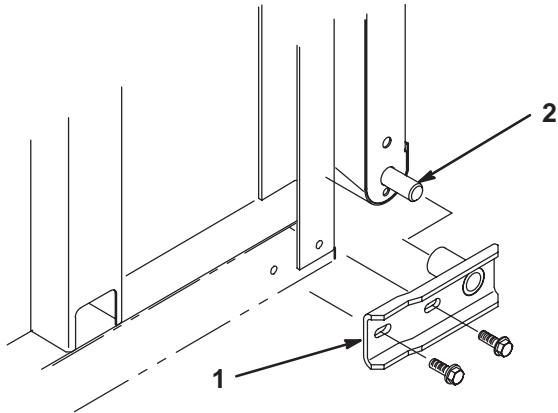

Figure 3
8. Place a pivot bracket over each lower pivot pin on tailgate (Fig. 3).
9. Lift tailgate into operating position. While lightly pushing forward on the bottom of the tailgate, secure pivot brackets to right and left side panels and bed with (2) 5/16–18 x 1” lg. flange head capscrews and flange locknuts (Fig. 3).